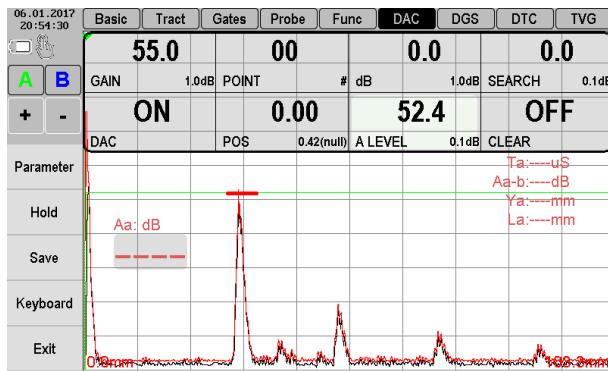

Figure 2.52 – Setting the reference signal for DAC mode
7. Set the reference signal amplitude «A Level» as the maximal amplitude from the first reflector (Figure 2.52) and turn on the input function of DAC («DAC – ON»),.